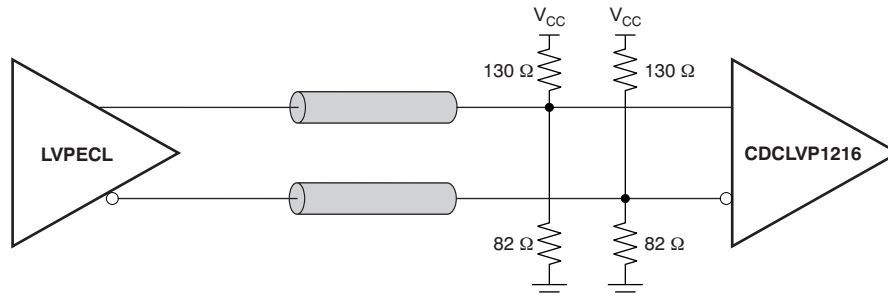
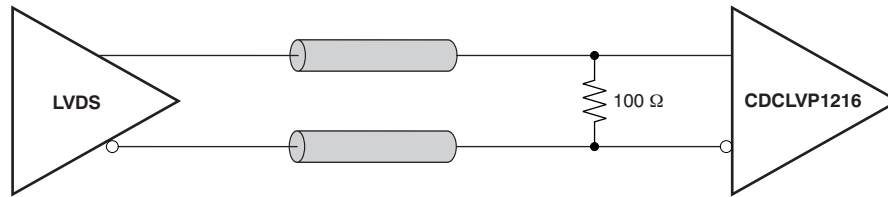

Figure 5. DC-Coupled LVPECL Input During Device Test
Figure 8. DC-Coupled LVDS Input During Device Test
(1) Figure 5 and Figure 8 show dc test setup. Figure 9 shows ac test setup.
This section describes the function of each block for the CDCLVP1216. Figure 5 through Figure 11 illustrate how the device should be setup for a variety of test configurations.